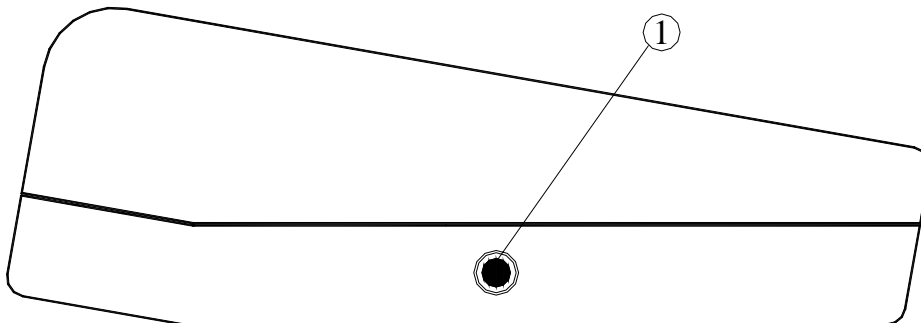

Fig. 2 – Left side of REI2 (from User Manual)
If an external loudspeaker, or systems of external loudspeakers, is used, it must be connected to the Speaker socket on the left side of REI2 (see ref. 1 in Fig. 2)